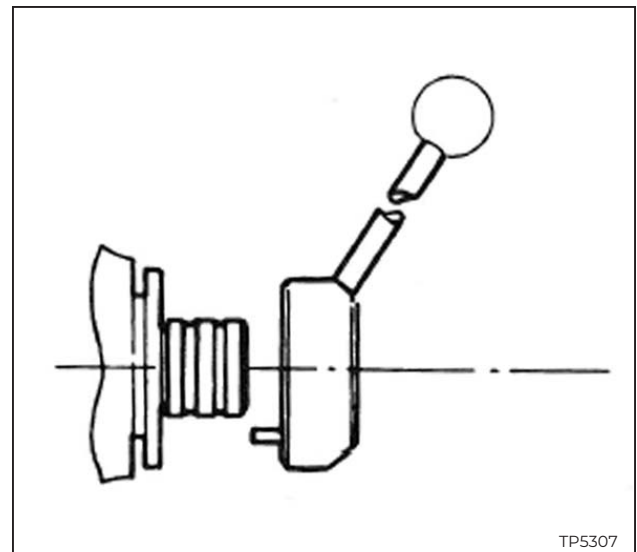

Figure 2.22 - Quill Sensitive Hand Feed
5. Select feed direction "F", Figure 2.22.